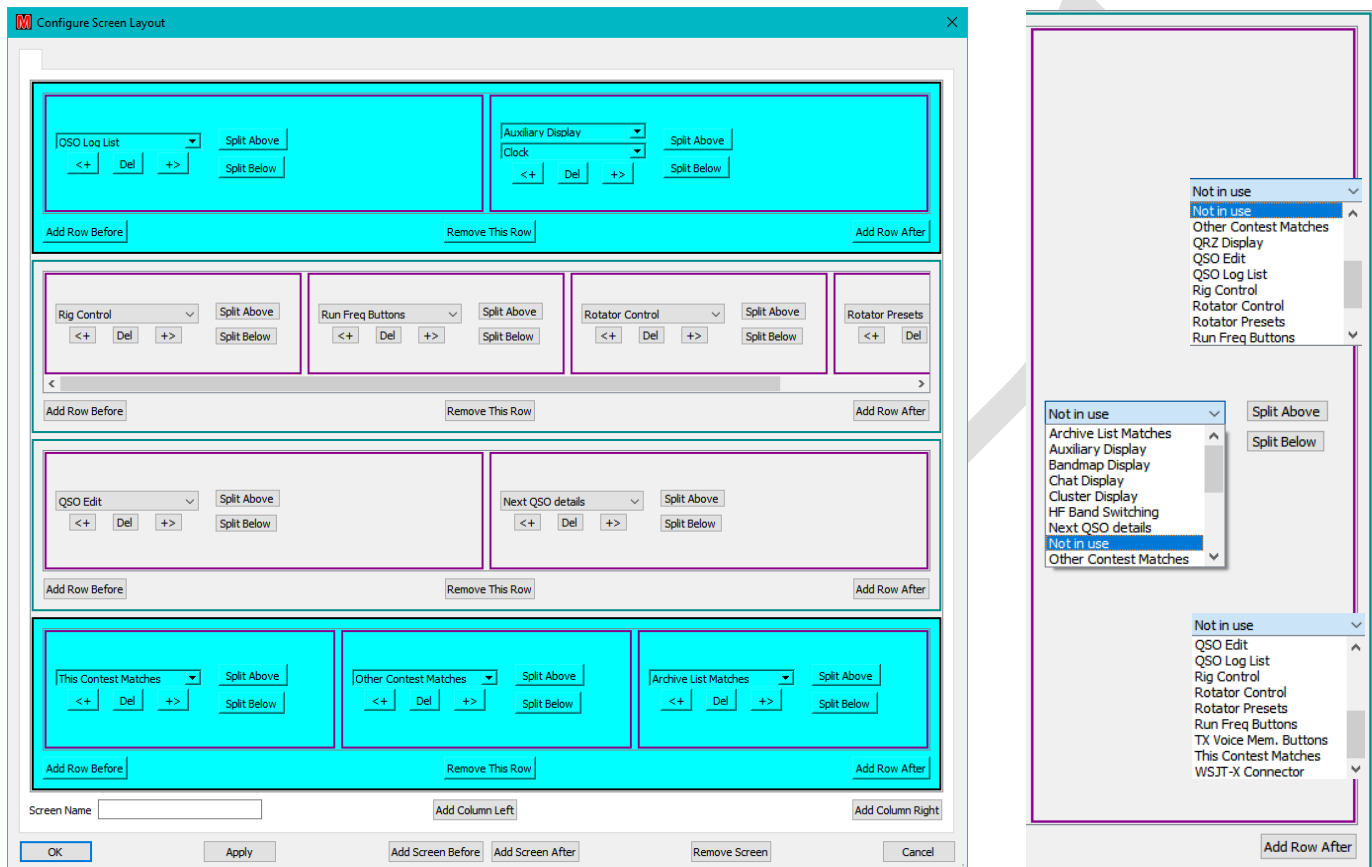

Figure 56 – Add column to left/right
- “**Add Column Left/Right**” is typically used for the Bandmap Display⁵⁵ (Figure 56 right), although other panels may be configured. The extent of the column is marked using the CTRL key (Figure 56 left) and clicking to select the top and bottom rows, then clicking the requisite button⁵⁶.